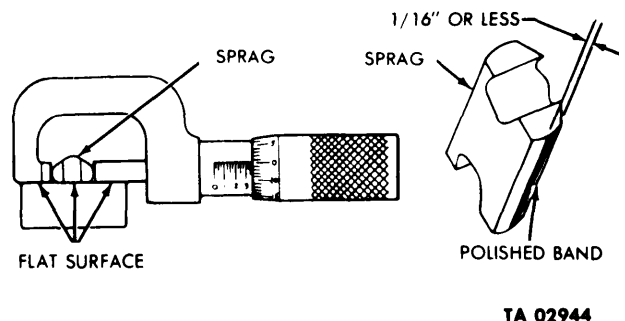

Figure 4-46. Inspecting Sprags for Wear.
**4-33. General.** The repair and replacement standards included herein provide the minimum, maximum, and key clearances of new parts. (See fig. 4-46, 4-47, 4-48, 4-49, and 4-50, and corresponding tables 4-5, 4-6, 4-7, and 4-8.) Standards also provide wear limits which indicate the point to which a part or parts may be worn before replacement is required, in order to receive maximum service with minimum replacement. Normally, all parts which have not been worn beyond the dimensions shown in the "Wear Limits" column, or damaged by corrosion, will be approved for service. An asterisk (\*) in the "Wear Limits" column, indicates that the part or parts should be replaced when worn beyond the limits given in the "Size and Fit of New Parts" column. In the "Size and Fit of New Parts" and "Wear Limits" column, the letter L indicates a loose fit (clearance) and a letter T indicates a tight fit (interference).
**4-34. Repair and Replacement Standard Points of Measurement.** Figures 4-46, 4-47, 4-48, 4-49, and 4-50, and corresponding tables 4-5, 4-6, 4-7 and 4-8, provide the repair and replacement standard points of measurement for transfer model T-136-21.
*b.* Inspect the sprags for evidence of wear on the cam surface which contacts the inner race. If the wear on the inner edge of the sprag is not more than 1/16 of an inch wide, the sprag is still usable. This inspection procedure is shown in fig. 4-46.